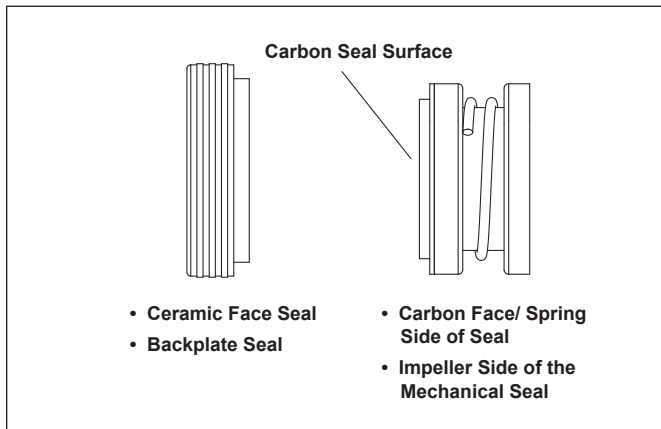

Figure 9. Replace the Mechanical Seal
1. Press the new carbon face seal half (see Figure 9) on the motor shaft using a twisting motion. Make sure the carbon surface is facing toward the ceramic ring in the backplate.
2. Remove the carbon face seal half from the motor shaft. Refer to Figure 9. This is a spring-loaded seal. Grasp the portion of the seal closest to the impeller body and pull the seal off using a twisting motion.